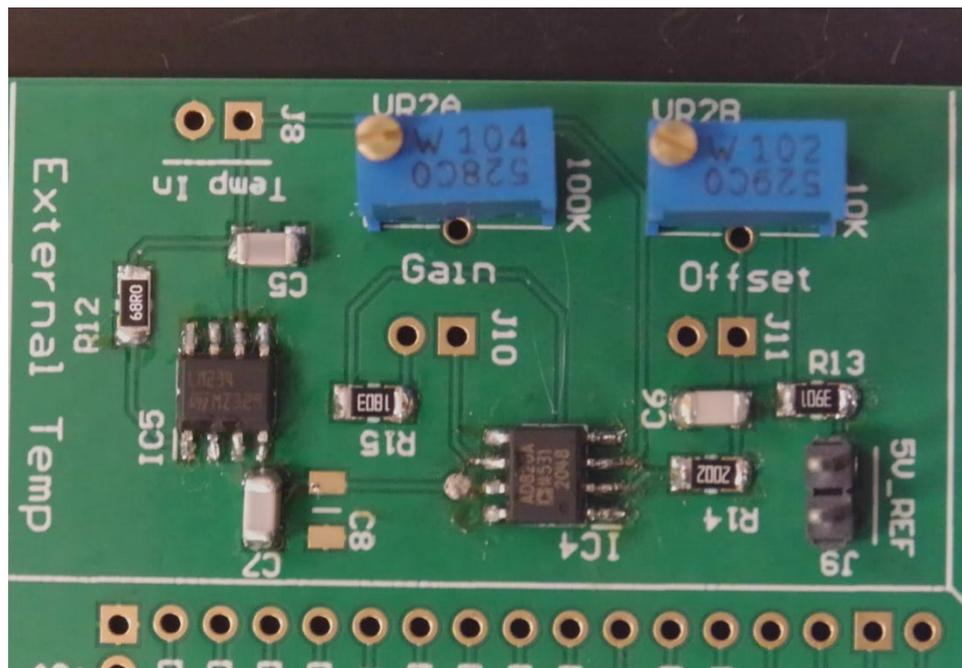

Figure 36: Initial Assembly of external temperature circuit.
24. The initial assembly of the external temperature circuit is now complete. Your board should look similar to the image shown in Figure 36.